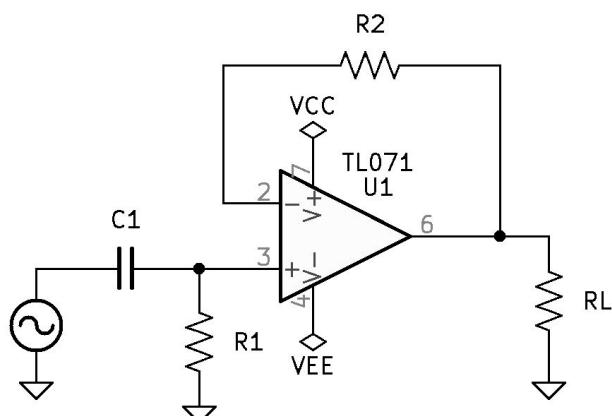

Figure 8.4: High-Pass First Order Active Filtering Circuit.
1. See Figure 8.4 *High-Pass First-Order Active Filtering Circuit* on page 86.